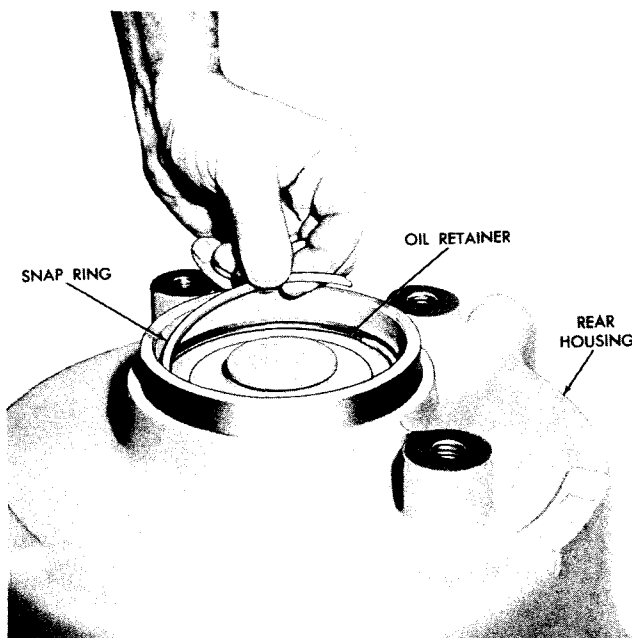

Fig. 7-15. Installing oil retainer snapring (-1 model)
(10) Install the snapring which holds the oil retainer in the rear of the rear housing (fig. 7-15).